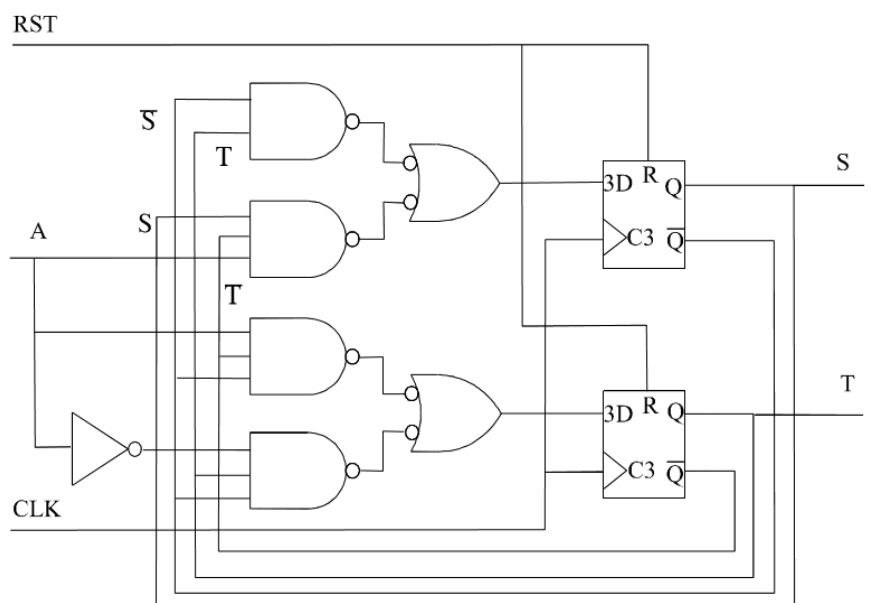
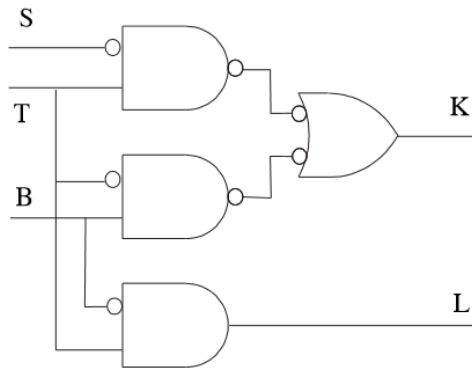
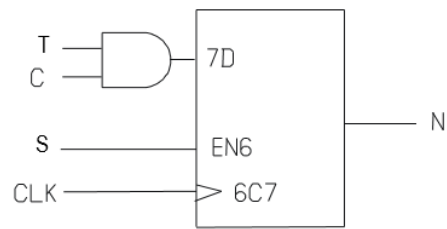

FIGURE 2: Basic FSM
FIGURE 3: Additional combinational output logic
FIGURE 5: Additional sequential output logic
The FSM of Figure 2 is extended by adding the combinational logic block shown in Figure 3 at the outputs. We now have an additional Primary Input (PI) (B). The Primary Outputs (POs) are now K and L. S and T are no longer POs and cannot be directly observed. the FSM developed (Figure 2+3) is further extended by adding the output circuitry indicated in Figure 5, we